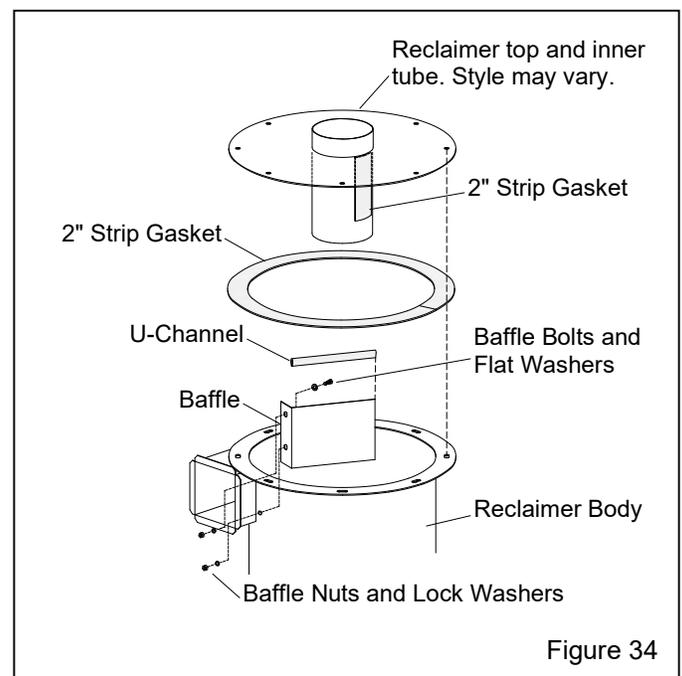

Figure 34
7.13 Removing or Replacing Reclaimer Inlet Baffle – Figure 34